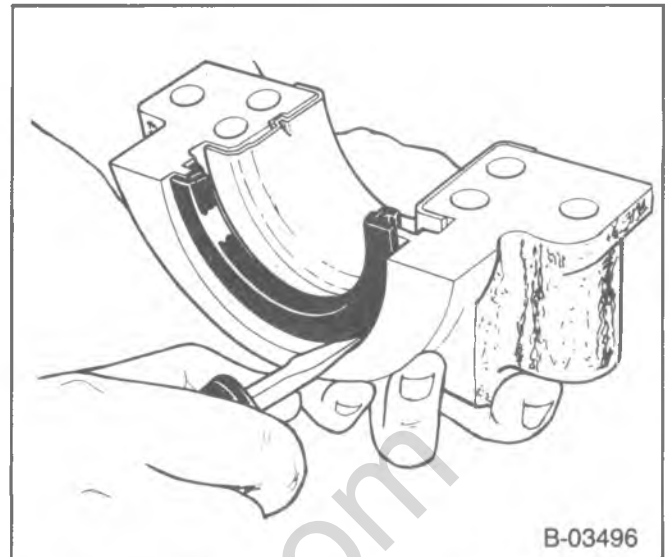

Figure 18—Removing the Lower Oil Seal Half
**Remove or Disconnect (Figures 18 and 19)**
3. Lower seal half (figure 18).